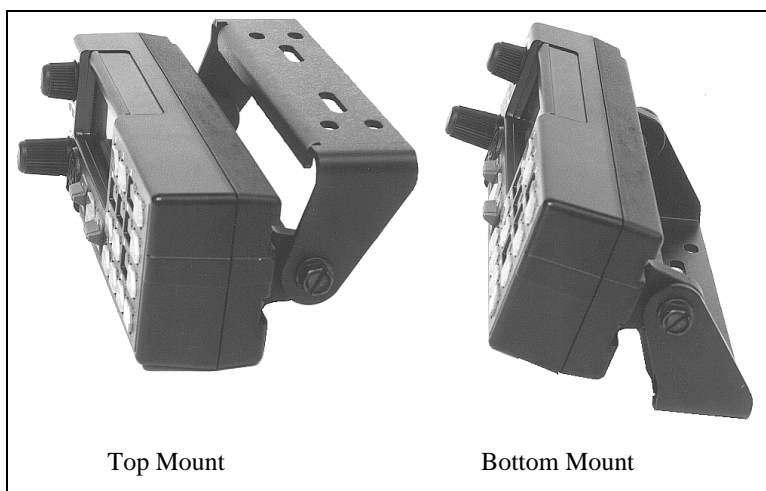
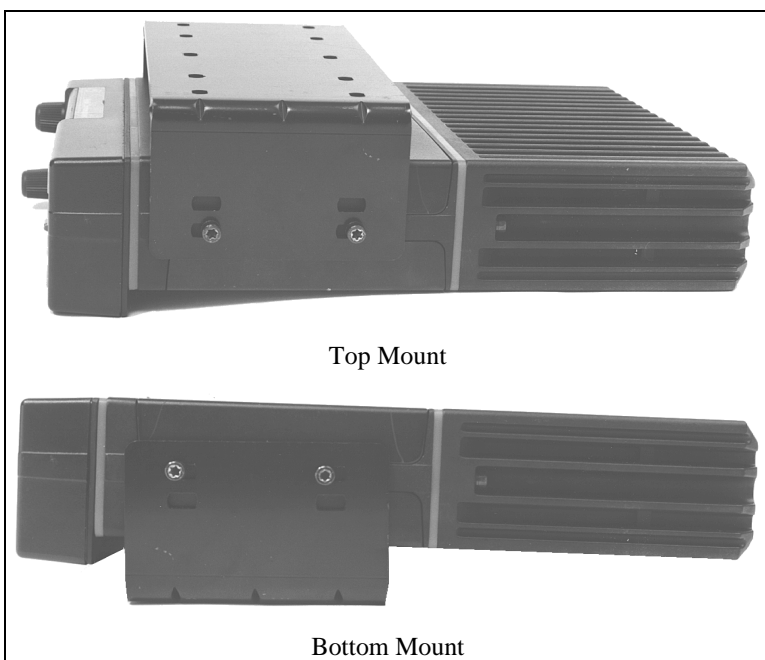
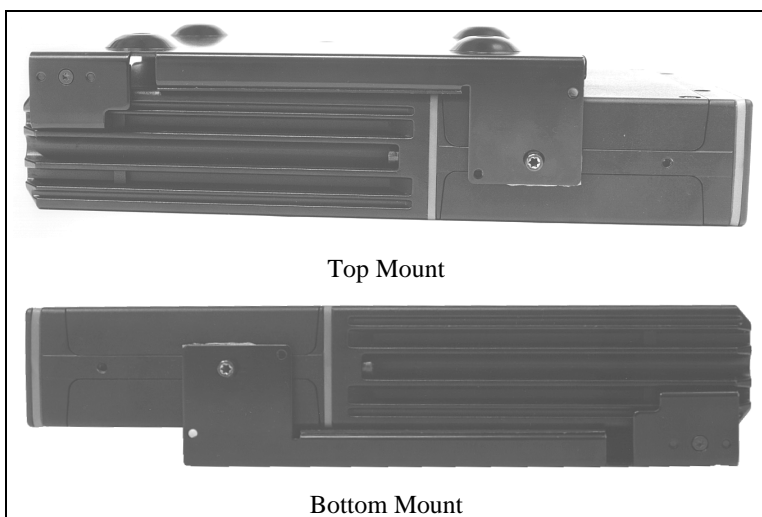

Figure 24 - Control Unit Mounting Bracket Installation
Figure 26 - Mounting Bracket Installation
Figure 27 - Remote Mounting Bracket Installation
1. Using the bracket as a template, mark and drill the mounting holes. Be sure to leave enough room at the rear of the control unit for the cable connector. Refer to Figure 24 for control unit mounting bracket installation.
Typically the bracket shown in Figure 26 is used for Front Mount applications. The bracket can be mounted so that it is either above or below the radio for the user's convenience. The bracket pictured in Figure 24 can also be used for Remote Mount application but is **not recommended for 110 watt VHF radios or 100 watt UHF radios.** The following instructions are for a Front Mount installation using the bracket shown in Figure 26.
The bracket shown in Figure 27 is used for Remote Mounting (USA Only). In some applications the bracket shown in Figure 26 can also be used for Remote Mounting. The following instructions are for a Remote Mount installation using the bracket shown in Figure 27.
3. Slide the radio unit into the bracket by aligning bracket guides with grooves on each side of radio (rear of radio should be inserted first). Slide radio back until screw holes in front of bracket align with screw holes in side of radio. See Figure 27.